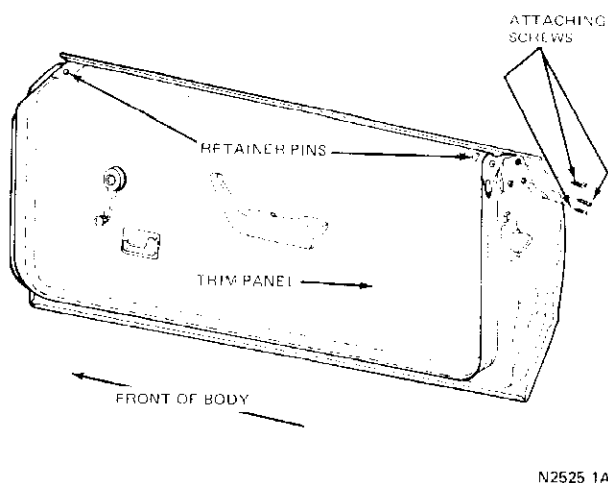

FIG. 4 Removing Door Weatherstrip—Trim Panel in Place (Typical)
1. Remove the door weatherstrip front and rear molded details attaching screws (Fig. 4).